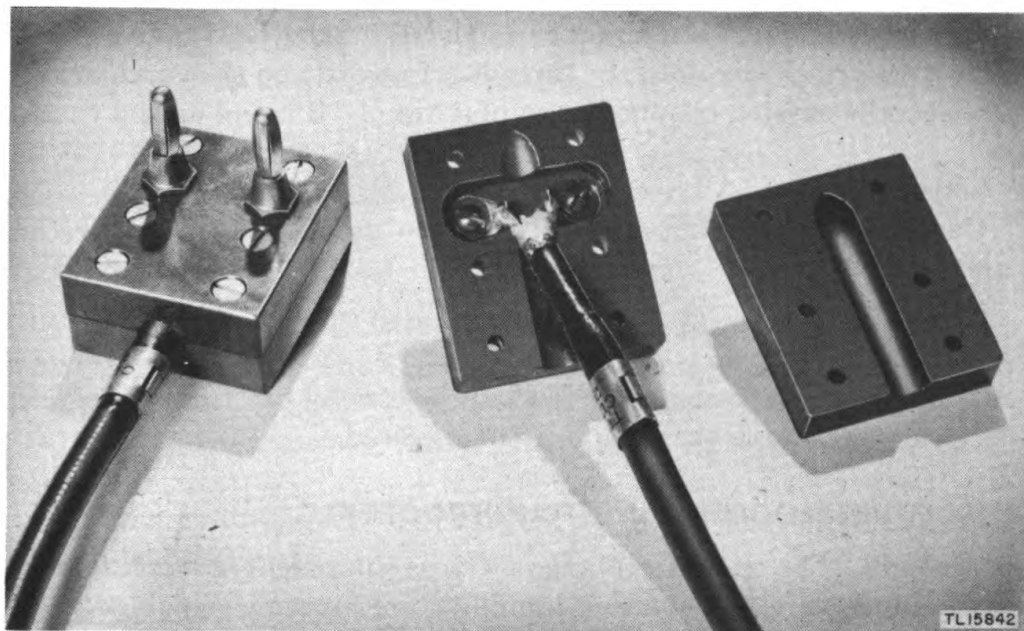

Figure 18. Plug No. 759, two views.
- f. Place the prepared end of the cable in plug No. 759 (fig. 18).